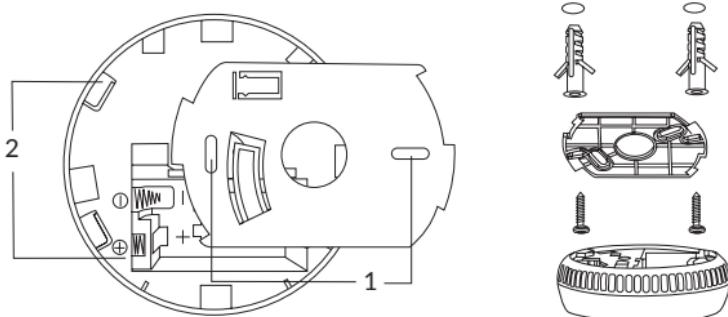

Fig. 9
6.5. To install the device, attach its base to the ceiling. To do this, mark the installation location, drill holes for the wall plugs, and secure the base using the screws provided. Next, attach the housing to the device by aligning and inserting the two distinctive tabs located on the base's edge (Fig. 9). These tabs fit into two elongated slots on the device's housing (Fig. 9). Finally, rotate the housing clockwise to secure it.